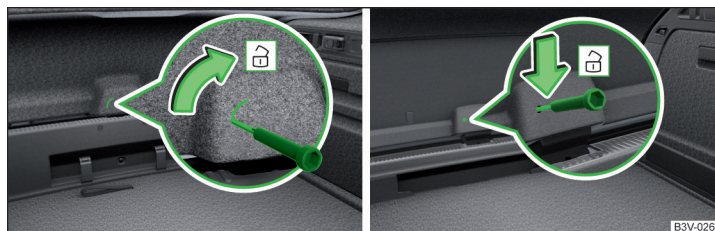

Fig. 262 Unlock boot lid: variant 1 / variant 2
- › Insert a screwdriver or similar tool into the recess or the opening in the trim » Fig. 262 as far as the stop.